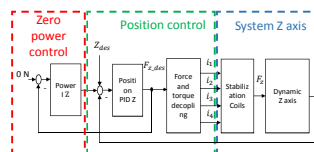

Figure 1: Control Structure
- The control is done by an additional cascaded control loop which uses the control output of the position controller. When the control output of the position controllers is zero the power dissipation is zero (Figure 1).